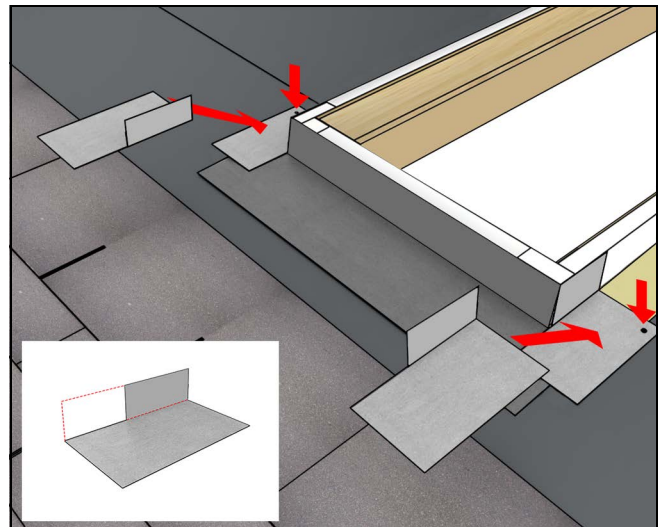

Figure 35
7. First step flashing placed a minimum of 4" beyond the sill of unit. *Note: remove material of vertical leg that extends beyond sill saddle.* See Figure 35.